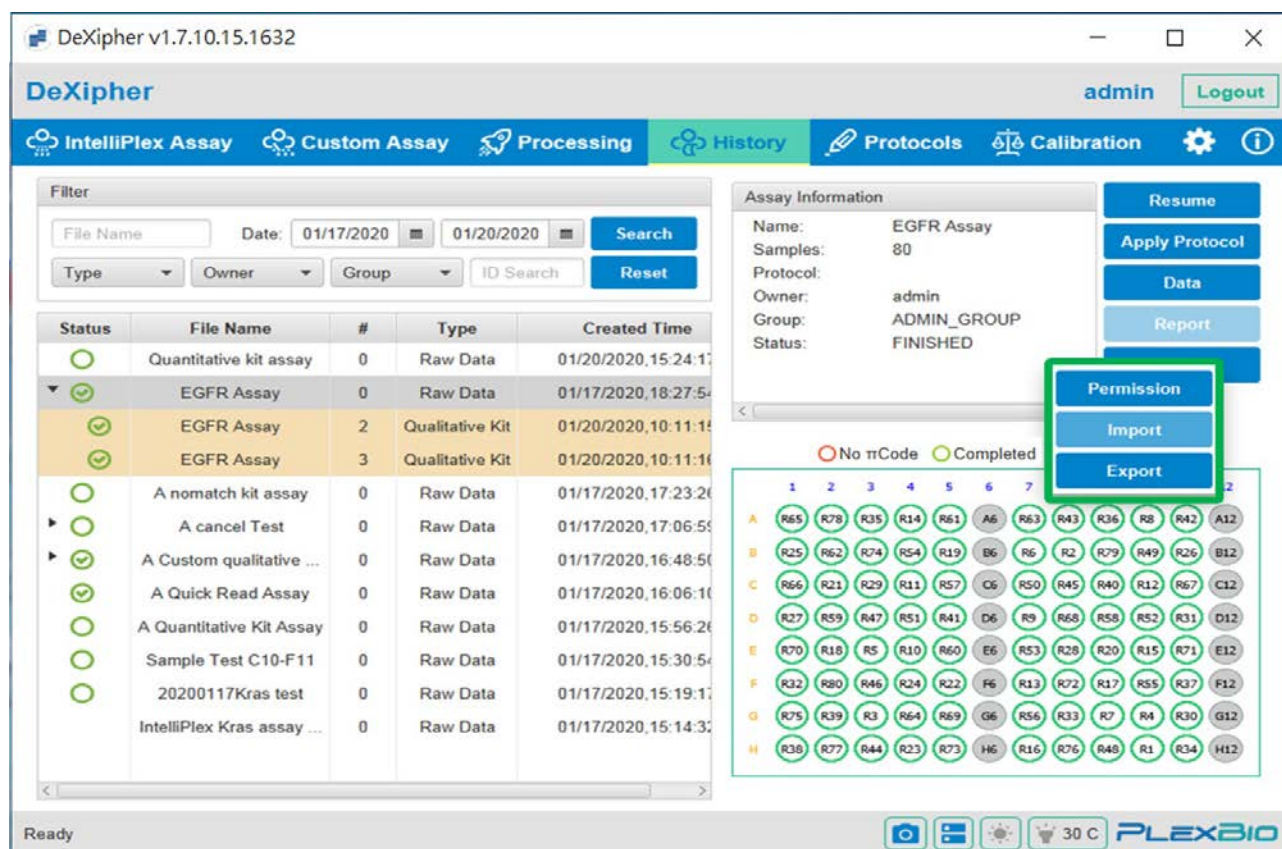

Fig. 34. Permission, Import and Export Functions
The **Export** feature (Fig. 34) can be used to backup files externally or to exchange files between copies of the DeXipher client not using a shared server. Only Parental Files with status *FINISHED* offer the Export option. Offspring Files can be added during the export of Parental File.
**To import a file**, click the “Import” button (Fig. 34) and select the file to be imported. DeXipher will automatically import and add the file to the **History table**. After importing a file, it might be necessary to refresh the **History table** by clicking the “Search” command.